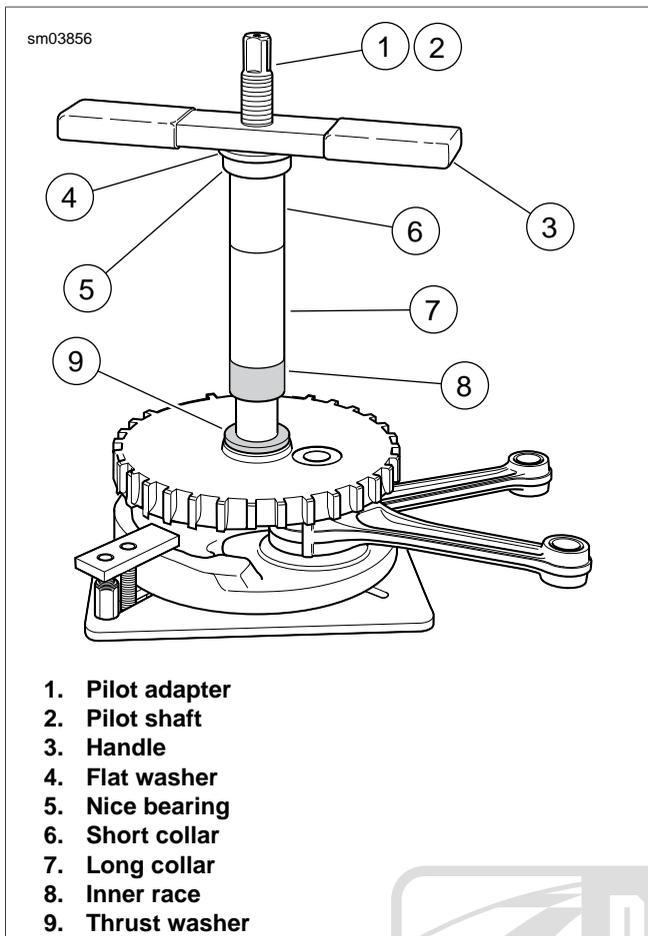

Figure 3-136. Press Inner Race onto Sprocket Shaft: Setup
- g. See Figure 3-136. Thread handle onto pilot shaft.